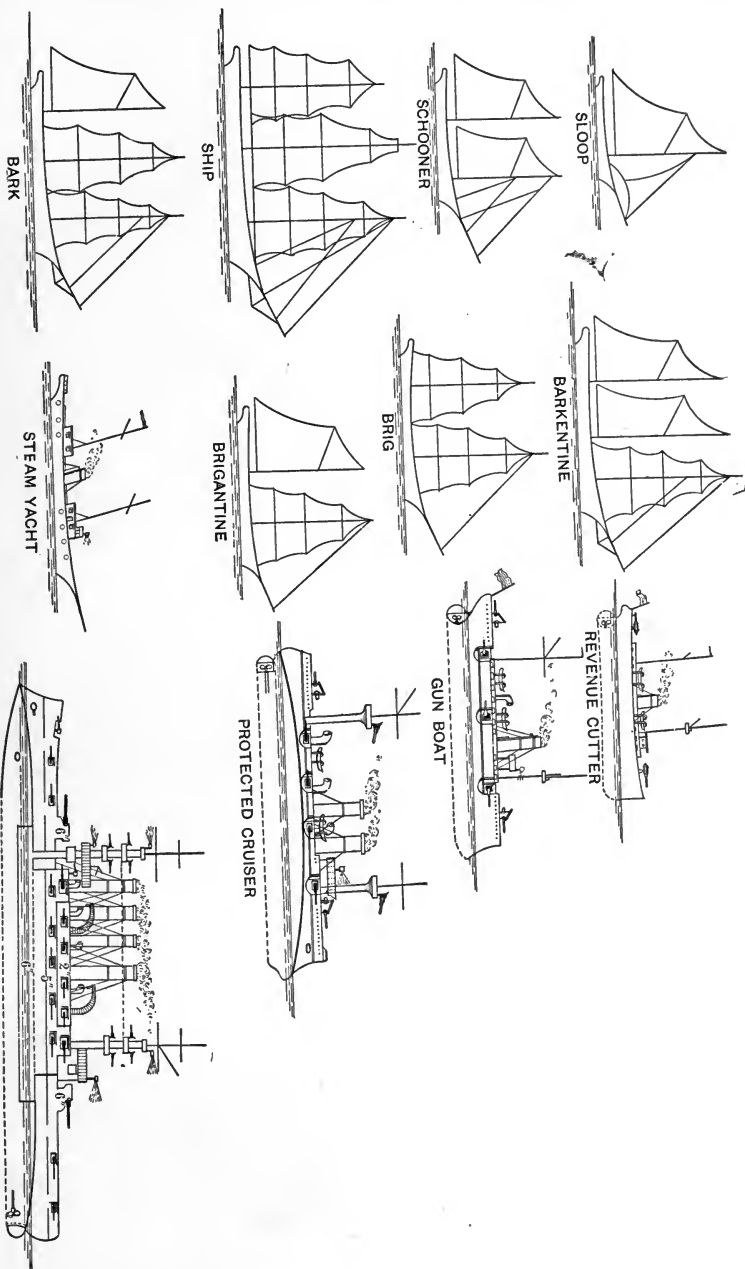

FIG. 84.
Q. Point from Figs. 84 and 85 the following: